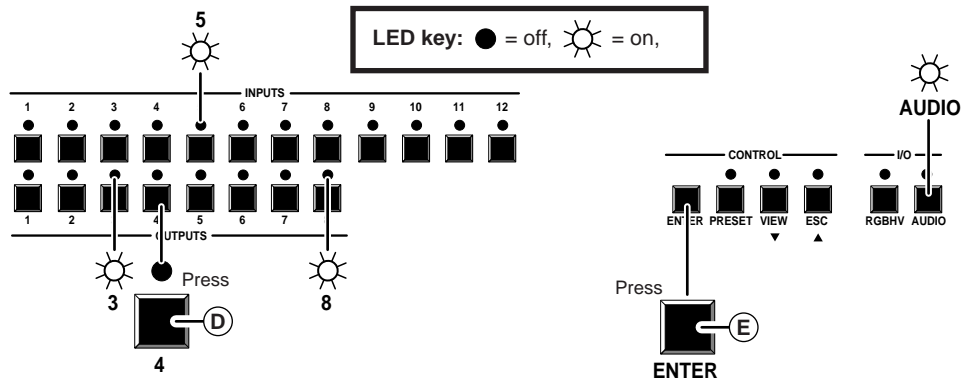

Figure 3-7 — Example 3d: Removing an audio tie
- (D) Press and release the output 4 button (figure 3-7). The output 4 LED turns off, while the output 3 and output 8 LEDs remain lit.